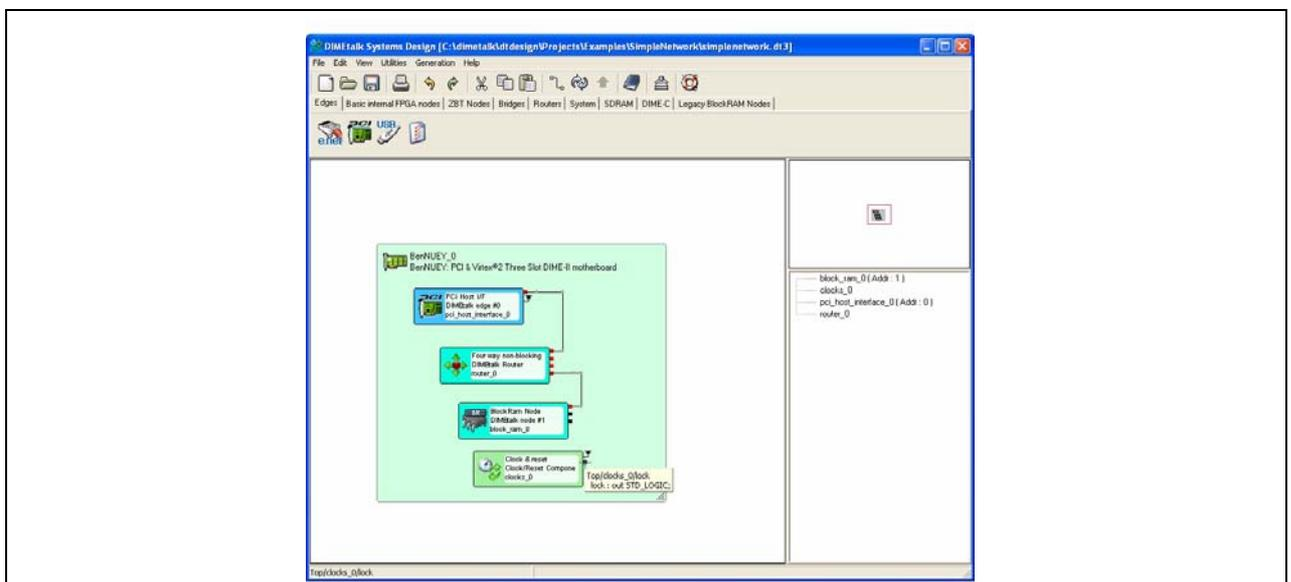

Figure 44: Lock Signal
2. The Clock & Reset component has a 'lock' signal, shown in **Figure 44**, which indicates that all the clocks are operating correctly. For this tutorial the signal is brought out to an LED.